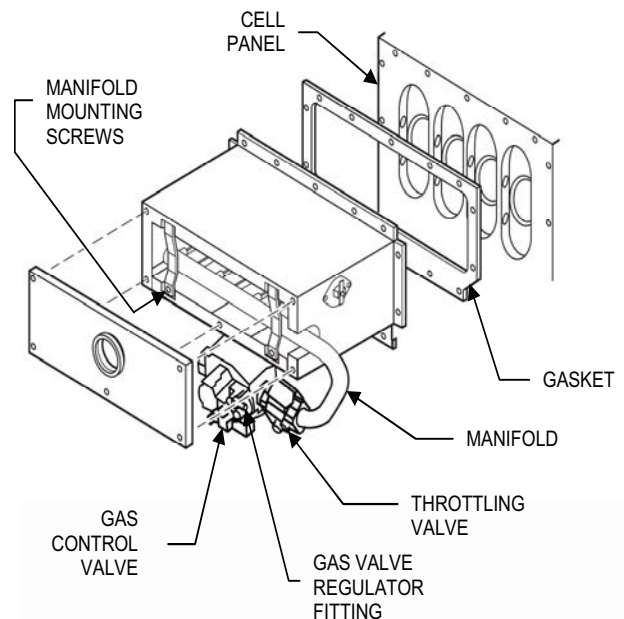

Fig. 6 - Burner Box Assembly
9. Remove screws that secure manifold to burner box. (See Fig. 6.)
10. Remove screws attaching burner box to cell panel. (See Fig. 6.)
NOTE: Be sure burner box gasket is installed between burner box and cell panel. (See Fig. 6.) If gasket is damaged, replace it.